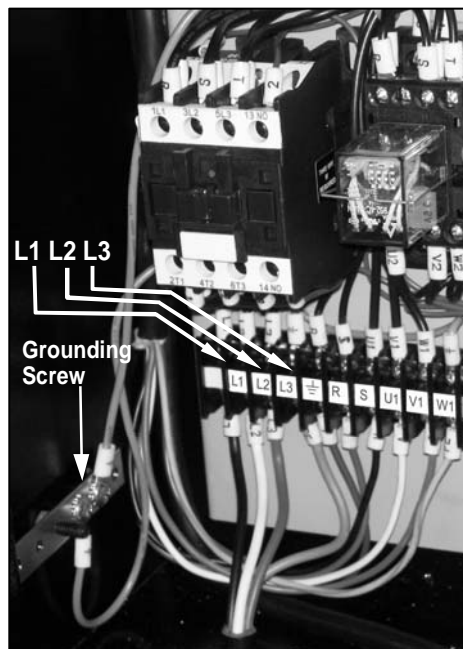

Figure 3
1. Bring the lead wires through the hole in the side of the control box and connect as follows (refer to Figure 3):